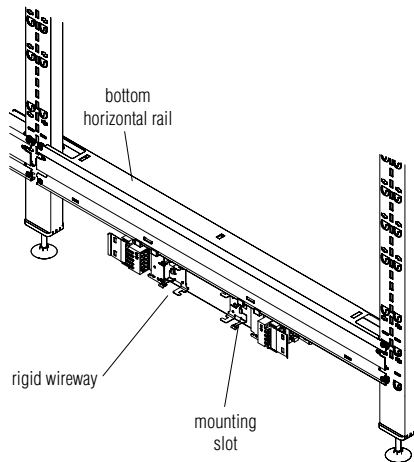
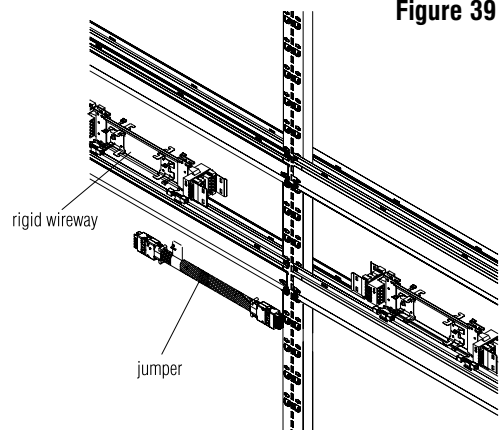

Figure 38
Figure 39
Rigid wireways are installed by first installing the plastic clips into the appropriate slot on the horizontal rail. Slide the clips near side open saddles (**Figure 38**) on to the frame until a snap is heard. Then squeeze frame until the far side saddles engage the rail and affix in place manually, or with a soft mallet.
Rigid wireways hang off the lowest rail (base power) (**Figure 38**) but sit on top of the rails at other heights (ADA, worksurface height and standing height). **Figure 39**.
2. For power at other heights, position the plastic clips on the top of the horizontal rail. **Figure 39**. Continue installing rigid wireways as required.
Power is passed from panel to panel by using a horizontal jumper. **Figure 39**. Horizontal jumpers use fiberglass mesh and come in two different lengths (17" & 20"). The 17" jumpers are used on in-line conditions, while 20" jumpers are used to pass straight through an intersection or around a 90° corner. See the diagrams on the following page for example installations. **Examples A-E**.